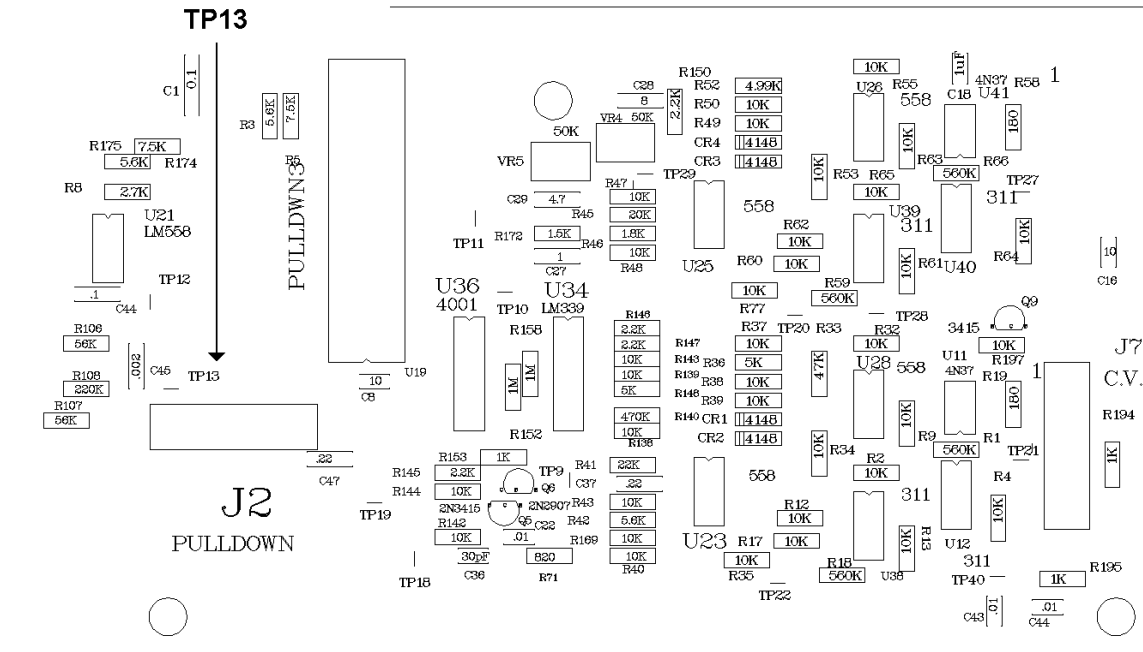

Figure 6.5: Pull-down Sensor Test Point
1. Connect an oscilloscope to test point TP13 on the CPU/Main Logic card, card 2293. (See Figure 6.5.) Set the vertical deflection to 5.0 volts per division, and the horizontal to 2 milliseconds per division.